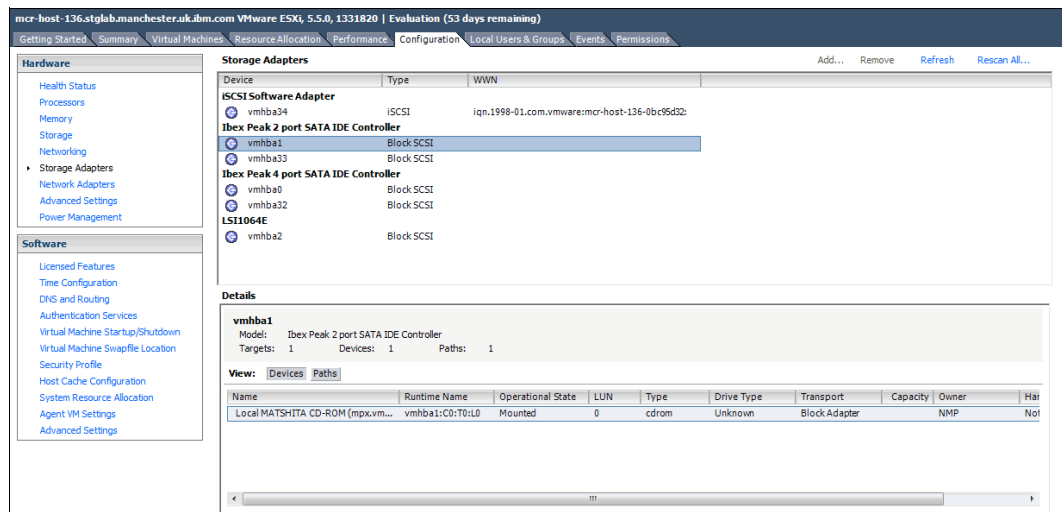

Figure 4-15 The Storage Adapters view showing the newly added iSCSI Software Adapter
5. Click **OK** to confirm. The Software iSCSI Adapter should now be listed under **Storage Adapters**, as shown in Figure 4-15.